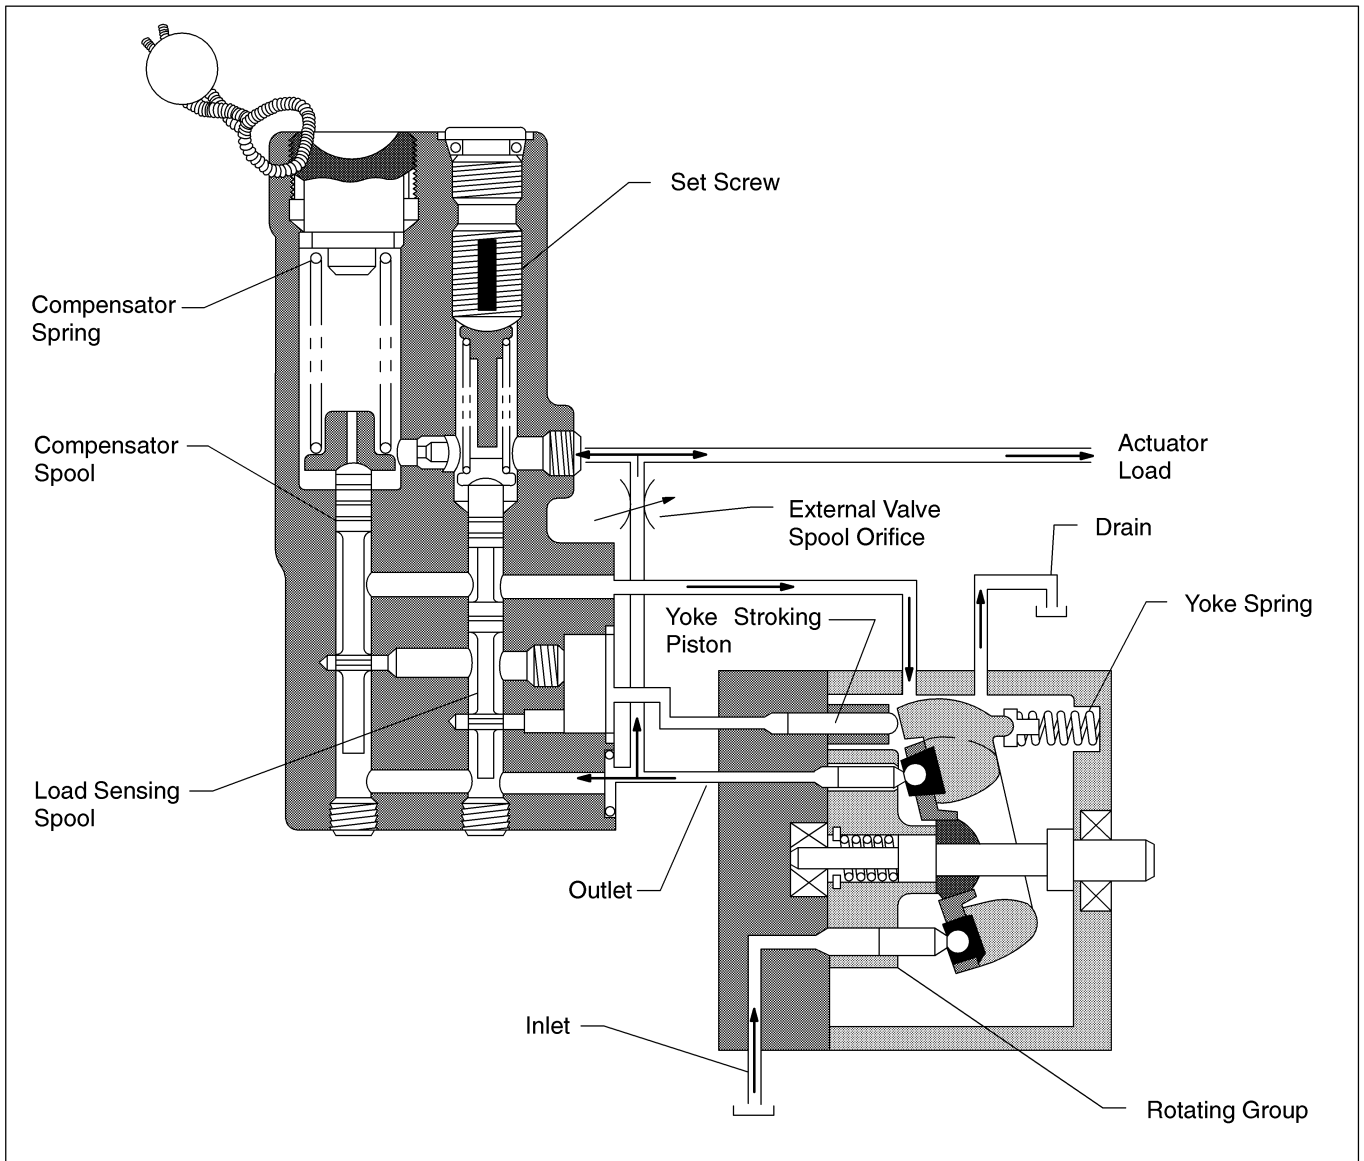

Figure 5. Load Sensing Pressure Limiting Compensator (CVP or CVPC)
4. Compensator (CVP), (Load Sensing Pressure Limiting Type): The CVP control is a combination of the standard flat cut-off compensator (C) and the load sensing compensator (CV). The load sensing compensator controls flow to the load across an external valve orifice. If pressure build-up exceeds the flat cut-off compensator setting, the flat cut-off compensator overrides the load sensing compensator and lowers the flow to prevent excessive pressure build-up at the pump.
5. Compensator (CVPC), (Load Sensing Pressure Limiting Type): This compensator is the same as the "CVP" compensator except the load sensing spring is heavier. The heavier spring provides a slightly higher pressure differential (160 Δ P vs. 350 Δ P) across the external valve orifice. See Figure 5.
The load sensing portion functions at pressures below the flat cut-off compensator setting and provides a constant flow characteristic. If pressure exceeds the flat cut-off compensator setting, the yoke will stroke to zero flow at maximum pressure lowering the horsepower requirements for holding circuits and protecting the pump. Refer to Figure 5 throughout the following circuit explanation.
The small fixed orifice located in the compensator body provides a decompression feature for the load circuit during standby operation. The decompression feature allows the pump to stroke to zero flow and minimum pressure (ΔP), if the load is blocked and the external valve spool orifice is closed. (Refer to Figure 5.)